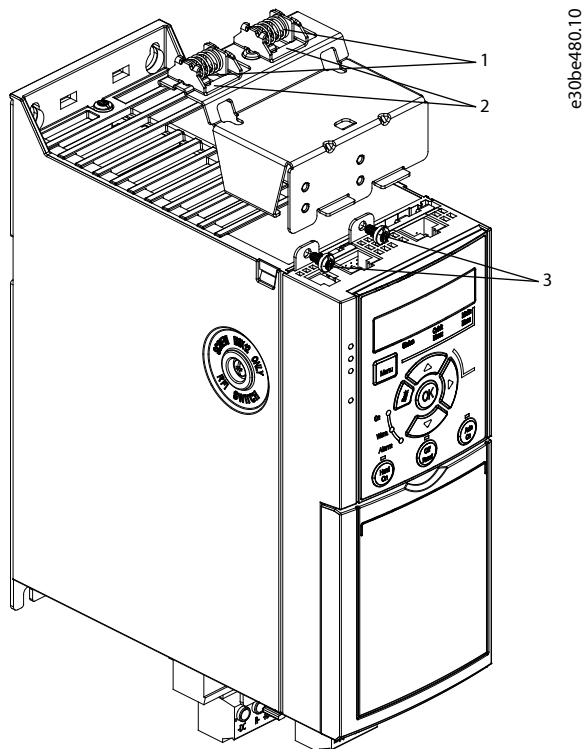

Figure 6: Fasten the Horizontal Decoupling Plate with Screws
1. Place the horizontal decoupling plate on the control cassette mounted on the drive and fasten the plate using 2 screws as shown in Figure 6. Tightening torque is 0.7–1.0 Nm (6.2–8.9 in-lb).
Figure 6 shows Ethernet-based connectors (RJ45). The actual connector type depends on the selected fieldbus variant of the drive.